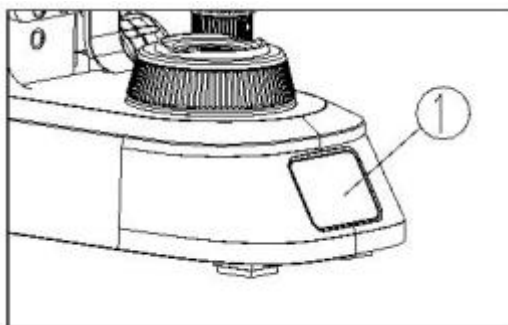

Figure 23
- ② Displays the current lighting brightness.
- ③ Displays the objective magnification value.
- ④ Displays the current color temperature value.
- ⑤ Displays the ECO status. (See Fig. 23 & 24)